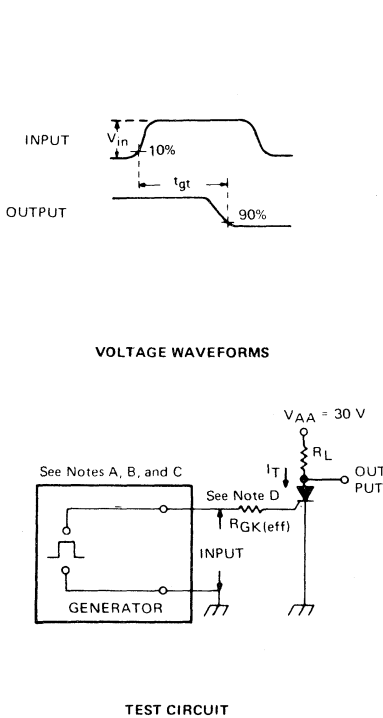

FIGURE 1—GATE-CONTROLLED TURN-ON TIME
- The input waveform of Figure 1 has the following characteristics: $t_r \leq 40\text{ ns}$, $t_w \geq 20\ \mu\text{s}$.